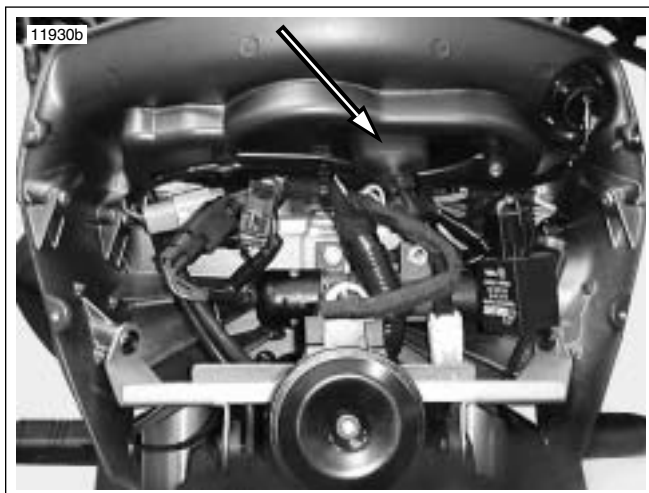
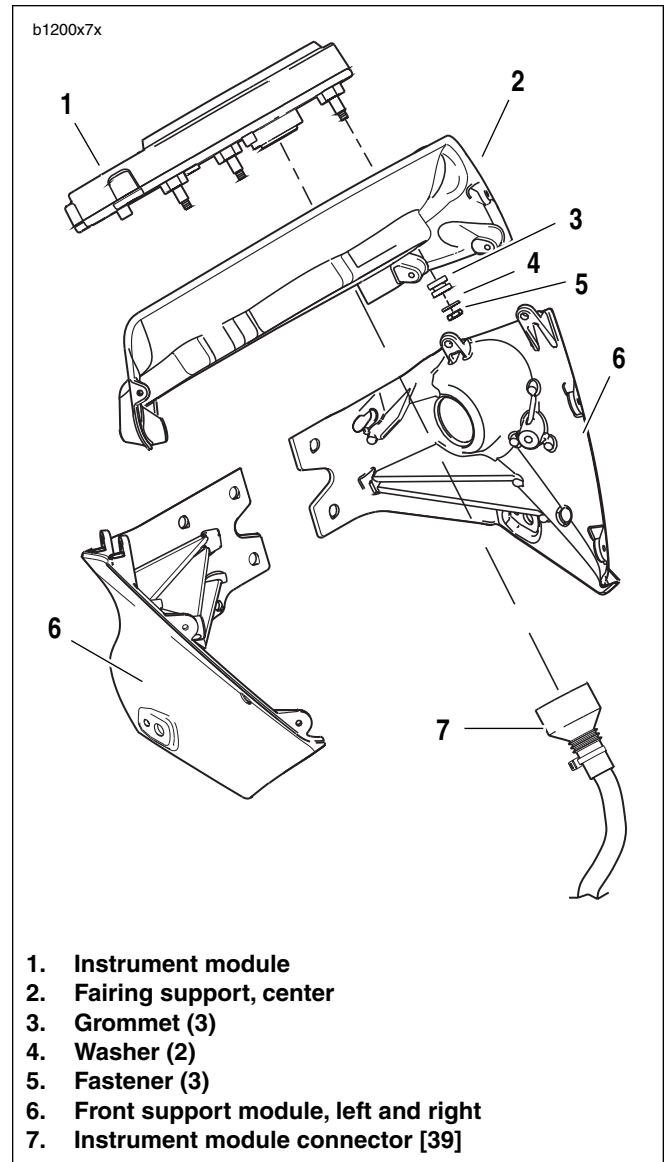

Figure 7-70. Instrument Module Connector [39]
Figure 7-71. Instrument Module
4. See Figure 7-70. Disconnect instrument module connector [39].
5. See Figure 7-71. Remove fasteners (5) and washers (4).
6. Pull instrument module (1) from front support module (2).
1. See Figure 7-71. Place instrument module (1) into position in front support module (2).
2. Install washers (4) and fasteners (5). Tighten fasteners to 12-36 **in-lbs** (1.4-4.1 Nm).
3. See Figure 7-70. Connect instrument module connector [39].